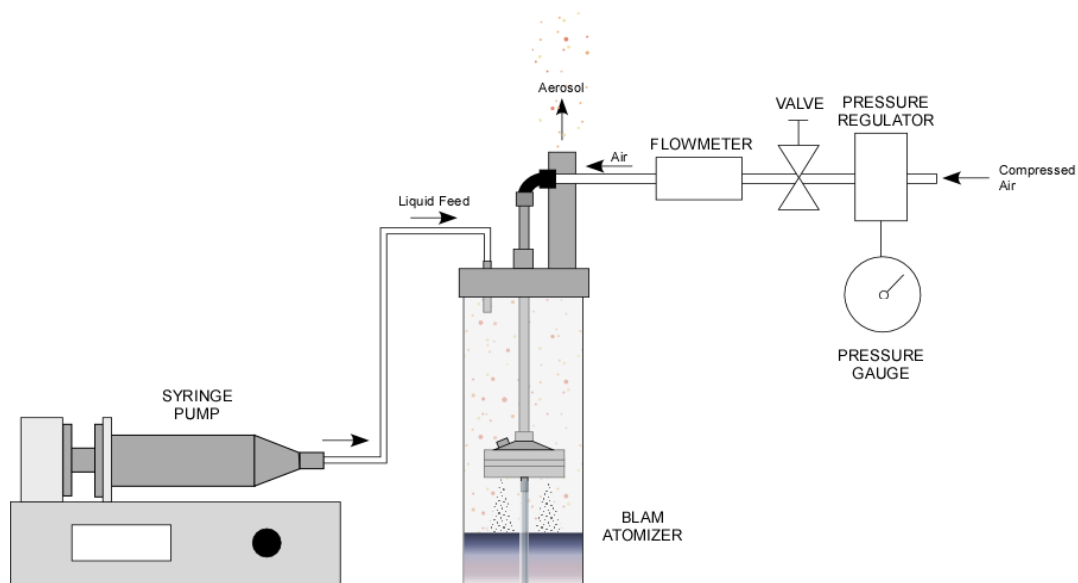

Figure 3. Schematic of BLAM's Setup in MPA Mode with External Refill
5. Using a piece of thin silicon tube, connect the outlet of a syringe or low flow peristaltic pump to the BLAM's liquid feed port (refer to Figure 3).